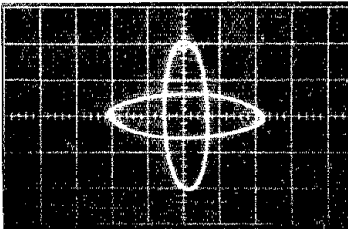

Fig. 3 — Scope display with the adapter set for 170-Hz shift and the signal properly tuned in.
Fig. 3 — A real ground caused the side lobes of the array of Fig. 2 to melt into one and the peak gain to drop. The solid curve is for a very good ground, the dashed line for a poor ground. Add 6 dB to all values.
What is the effect of real ground? Fig. 3 shows Annie's results for a good and a poor ground. First, the side lobes all melt into one lobe. Fortunately, that lobe is still very small. As for peak gain, the edge of the plot has been reduced to less than 6 dB greater than a dipole in free space. Notice that the array has a peak gain that isn't even as good as a dipole over perfect ground. Since the low-angle radiation of a horizontal dipole over real ground is nearly the same as over perfect ground, the situation does not look good.
Fig. 3 — A practical circuit example for a transistorized audio amplifier (A) and a tube amplifier (B). Note the differences in the operating voltages and impedance levels (see text).
Let's look for a moment at Fig. 3. It shows a transistor and a tube in similar circuits. Note the differences in the operating voltages and terminal impedances. You can see there is quite a difference between the two circuits, even though they are each capable of providing approximately the same amount of amplification. The term "Z" is electronic shorthand for "impedance." You will run across this expression many times in your studies. You will observe also from Fig. 3 that the values of the resistors and capacitors are substantially different for the pair of circuits.